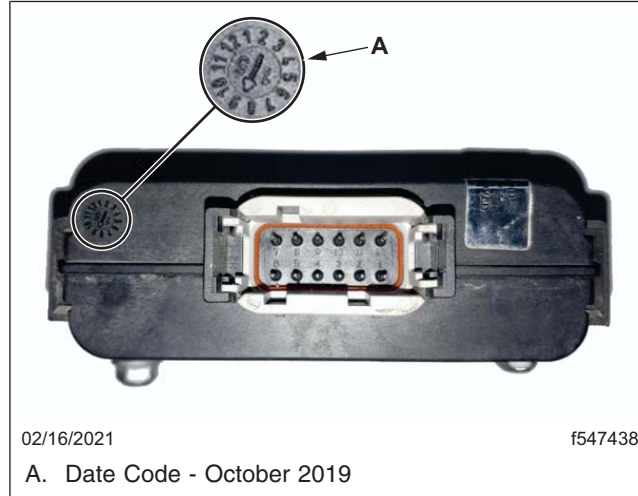

Fig. 4, TPMS Housing Date Code
5. Inspect the TPMS housing date code. If the date is between February 2019 and June 2019, replace the TPMS module. See Fig. 4 for the location of the date code.